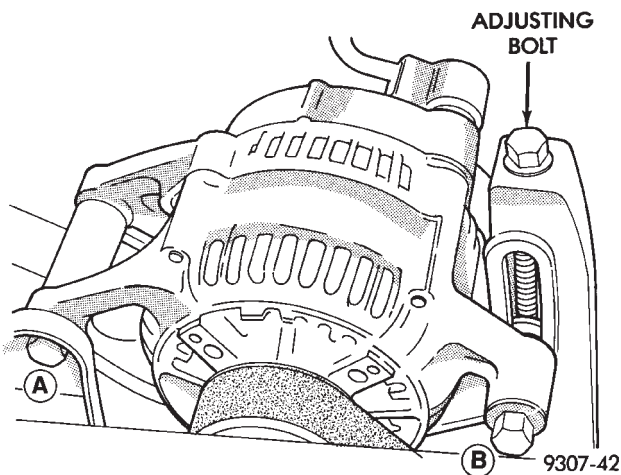
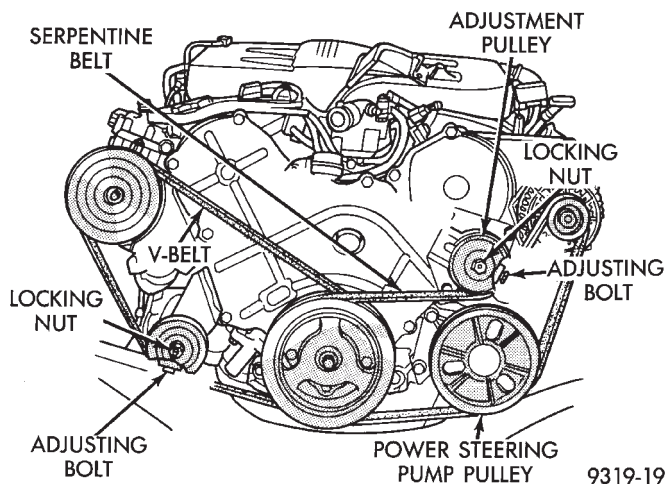

Fig. 1 Power Steering Pump Drive Belt 3.3-ltr
Fig. 2 Power Steering Pump Drive Belt 3.5-ltr
(1) Remove the battery cable from the battery negative terminal and isolate cable.
(2) Loosen power steering pump serpentine drive belt on 3.3-ltr engine, by loosening generator mounting bolt A and adjusting bolt locknut B (Fig. 1). Then loosen adjusting bolt (Fig. 1). Loosen power steering pump serpentine drive belt on 3.5-ltr engine, by loosening adjustment pulley locking nut (Fig. 2) and then loosening adjusting bolt (Fig. 2).
(3) Raise vehicle on jackstands or centered on a frame contact type hoist. See Hoisting in the Lubrication and Maintenance section of this manual, for the required lifting procedure to be used for this vehicle.
(4) Remove the serpentine drive belt from the power steering pump pulley, and store out of the way.